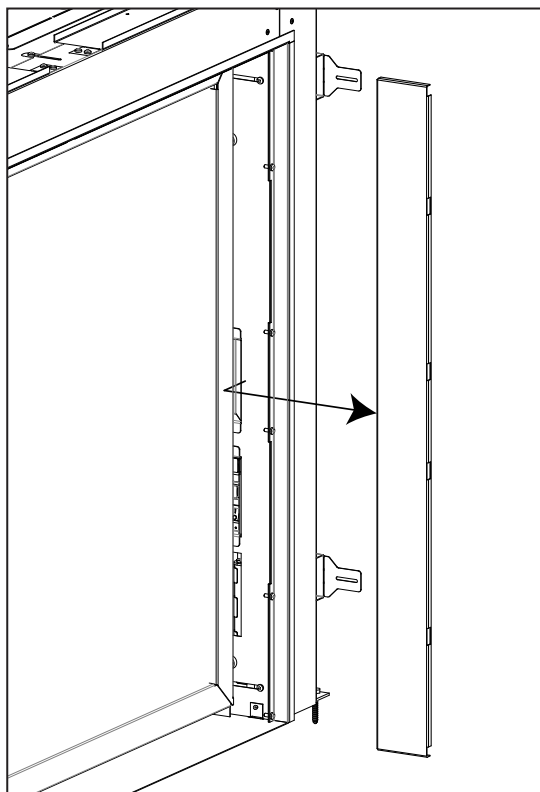

Figure 36: Side Cover Removal
3. On the inside of the cabinet there are two side covers attached via magnets. Gently pull on the side cover until they detach and set them aside (see Figure 36).